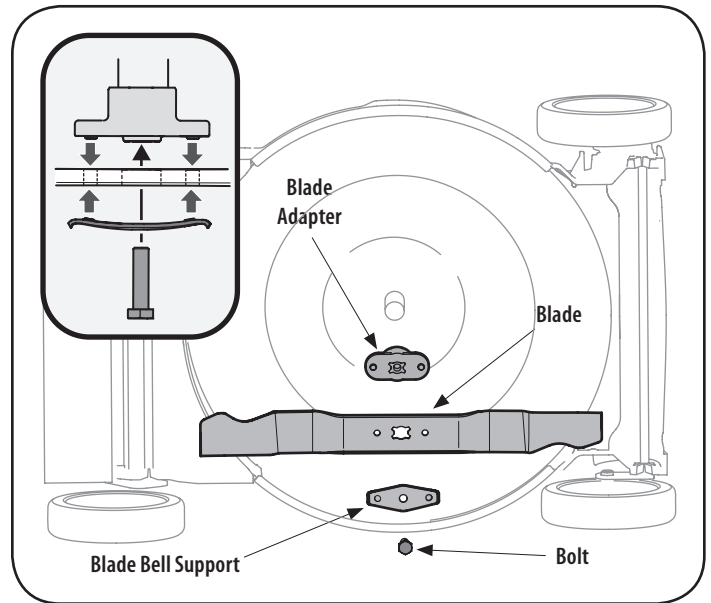

Figure 20
3. Remove the bolt and the blade bell support which hold the blade and the blade adapter to the engine crankshaft. See Figure 20.
6. Lubricate the engine crankshaft and the inner surface of the blade adapter with light oil. Slide the blade adapter onto the engine crankshaft. Place the blade on the adapter such that the side of the blade marked "Grass Side" (or with part number) faces the ground when the mower is in the operating position. Make sure that the blade is aligned and seated on the blade adapter flanges. See Figure 20 inset.